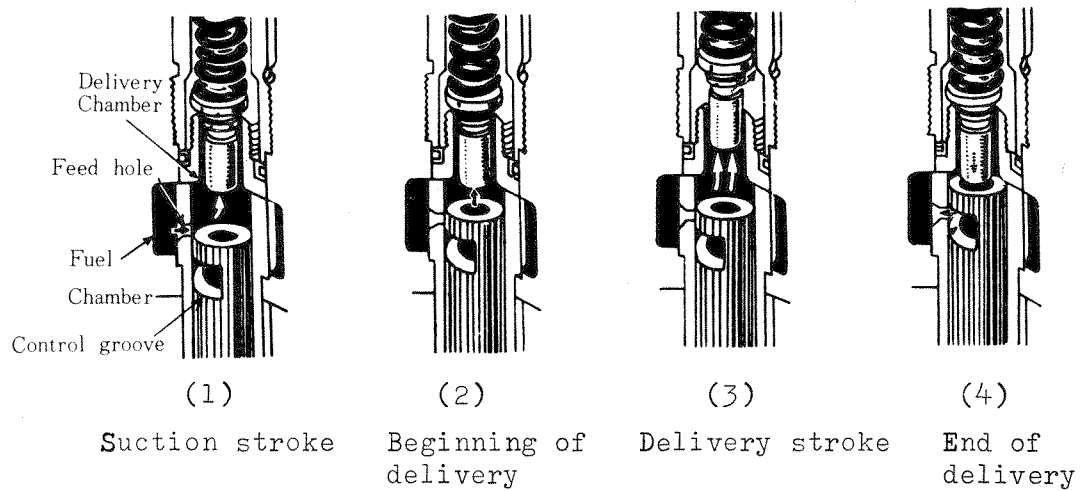

Fig. 6 Function of Plunger
- (a) When the plunger is at the bottom dead center, the fuel flows into the pump cylinder from the fuel chamber through the feed hole as shown in Fig. 6 (1).
- (b) The fuel cam revolves and the plunger is raised, and when the upper surface of the plunger is aligned with the top of the feed hole, it is the start of the fuel being sent under pressure (Fig. 6 (2)).
By further rising of the plunger, the fuel opens the delivery valve and is flown under pressure to the high pressure pipe and unto the nozzle. (Fig. 6 (3))
(c) The plunger is raised further. When the slanting control groove and the feed hole are aligned, as shown in Fig. 6 (4), the fuel under high pressure at the top of the plunger passes through the hole in the central part of the plunger to the control groove and is returned to the fuel chamber from the feed hole.